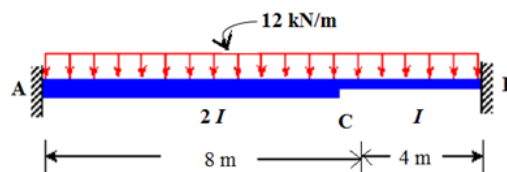

Figure 5
- (b) Analyse the fixed beam shown in Figure 5 and draw the shear force and bending moment diagrams. [7M]